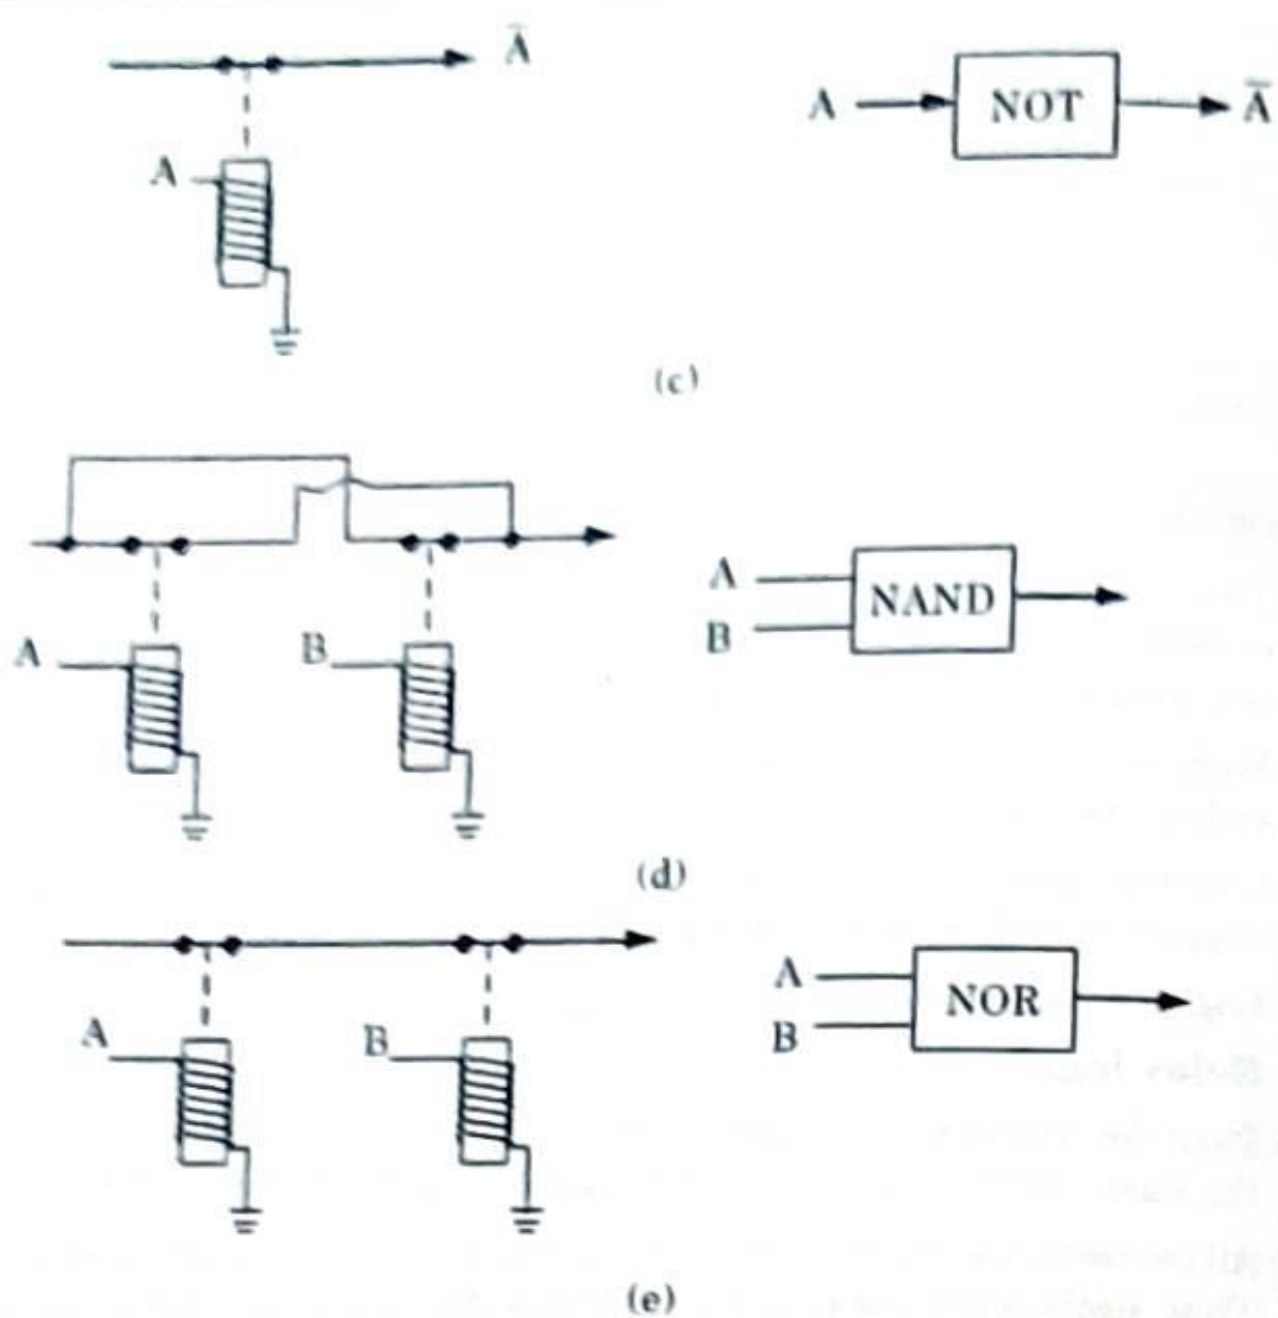

Fig. 5.6.1. Logic operations using relays.
- To make a connection between relay circuits and their logic operations, the basic operations mechanized using relays are shown in Fig. 5.6.1.